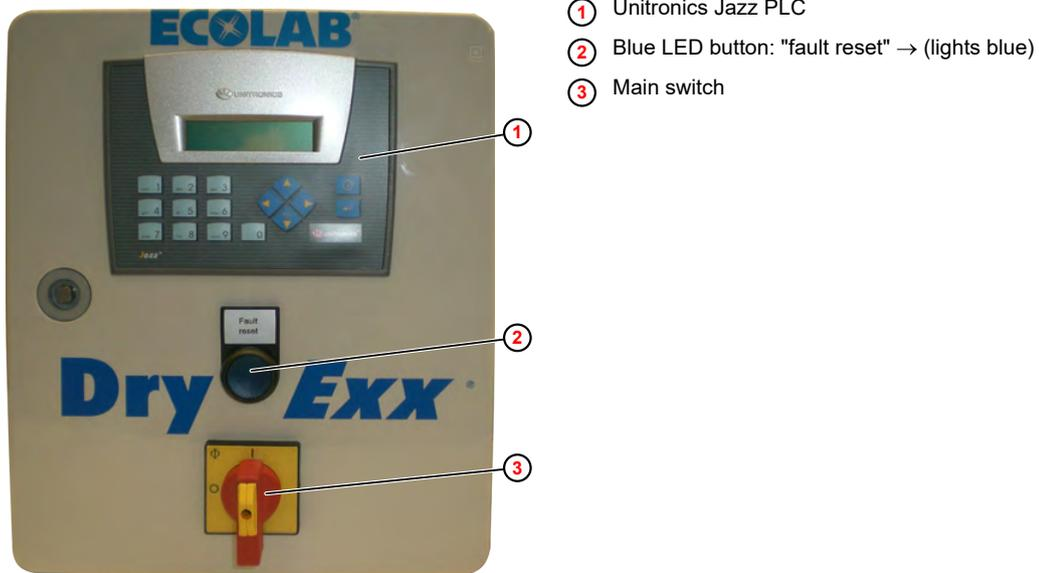

Fig. 9: Switch on the DryExx[®] Small
1. ➤ Switch off the main switch (Fig. 9 , ③) on the control cabinet.
2. ➤ Switch on the main switch (Fig. 9 , ③) on the control cabinet.
3. ➤ Press the Reset button (Fig. 9 , ②) if necessary.